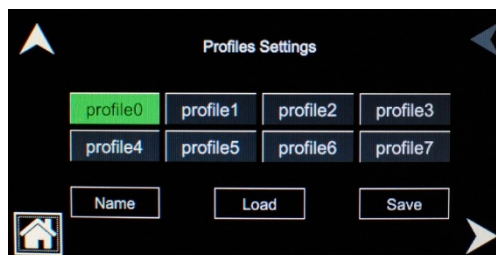

Figure 7-6. CONFIGURATION Menu, PROFILES Selection
3. Tap on one of the fifteen PROFILEx buttons (x = 0 to 14) to select it; refer to Figure 7-6.